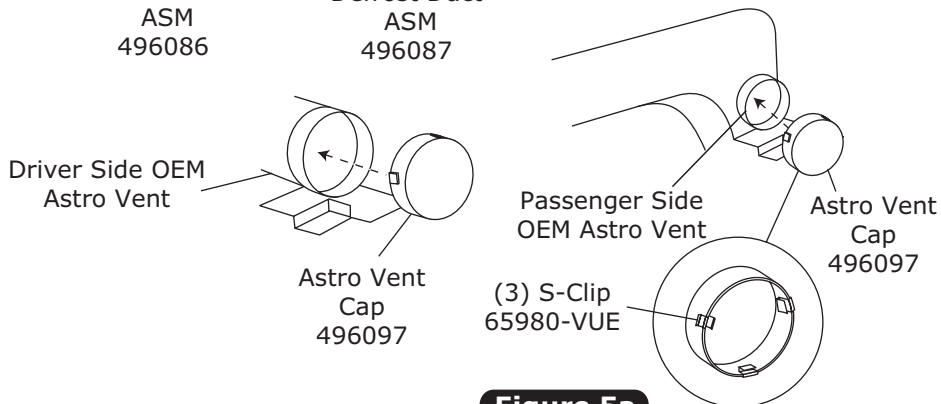

Figure 5a
2. Install astro vent cap with S-clips as shown in Figure 5a, below.